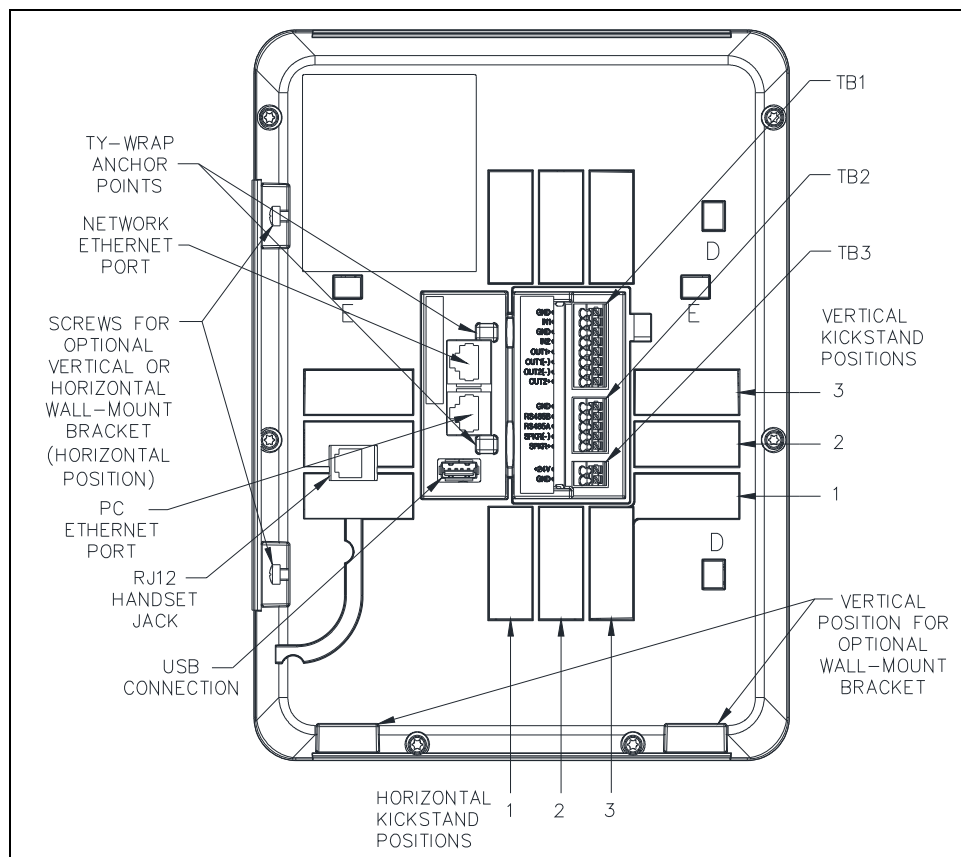

Figure 4. HUBBCOM Smart Controller—Rear View
The kickstand provides four positions in both orientations to suit the situation where it is used (see Table 1 and Figure 4).
2. Insert one side of the kickstand, with the flange properly oriented, into the desired position in the rear cutout (see Figure 4).
5. Remove the two #8 × ½-inch mounting bracket screws from the bottom of the rear panel and set aside (see Figure 4).
7. With the proper orientation for the unit's configuration, angle the unit to hook it onto the top flange brackets (D-D or E-E, see Figure 4), then rotate and slide it downward until it rests on the mounting bracket.
7. Remove the two #8 × ½-inch mounting bracket screws from the bottom of the rear panel and set aside (see Figure 4).
9. With the proper orientation for the unit's configuration, angle the unit to hook it onto the top flange brackets (D-D or E-E, see Figure 4), then rotate and slide it downward until it rests on the mounting bracket.
HUBBCOM smart controllers have dual Ethernet ports. Use the RJ45 jack furthest from the USB port to connect to the Ethernet network. The RJ45 jack closest to the USB port can be used to connect a PC (see Figure 4).
2. (Optional) Plug an Ethernet cable from a PC into the remaining RJ45 jack (see Figure 4).